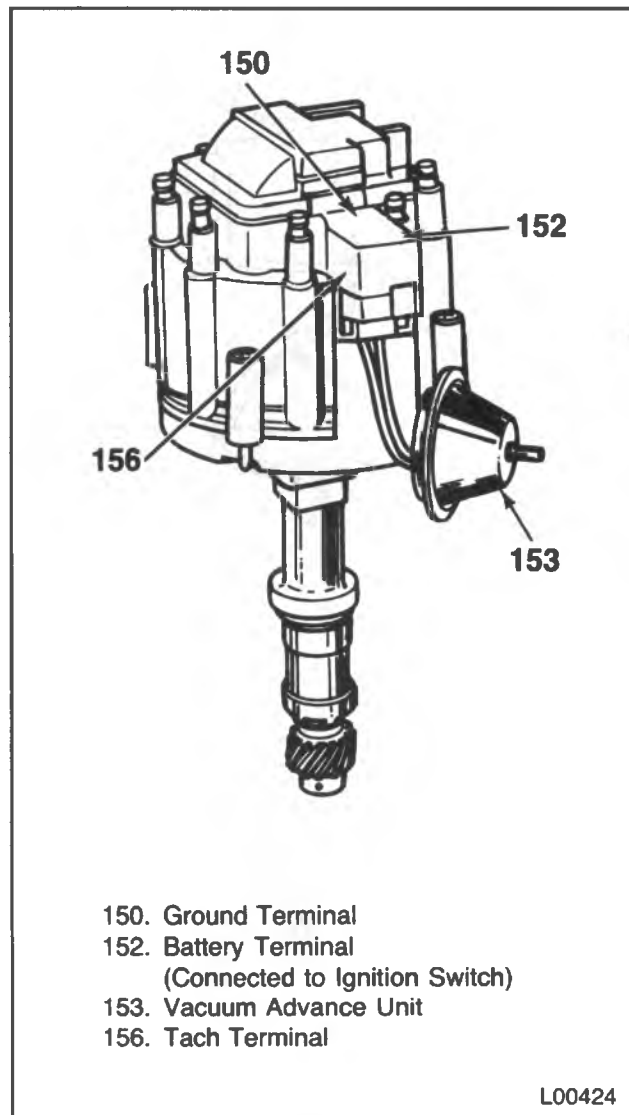
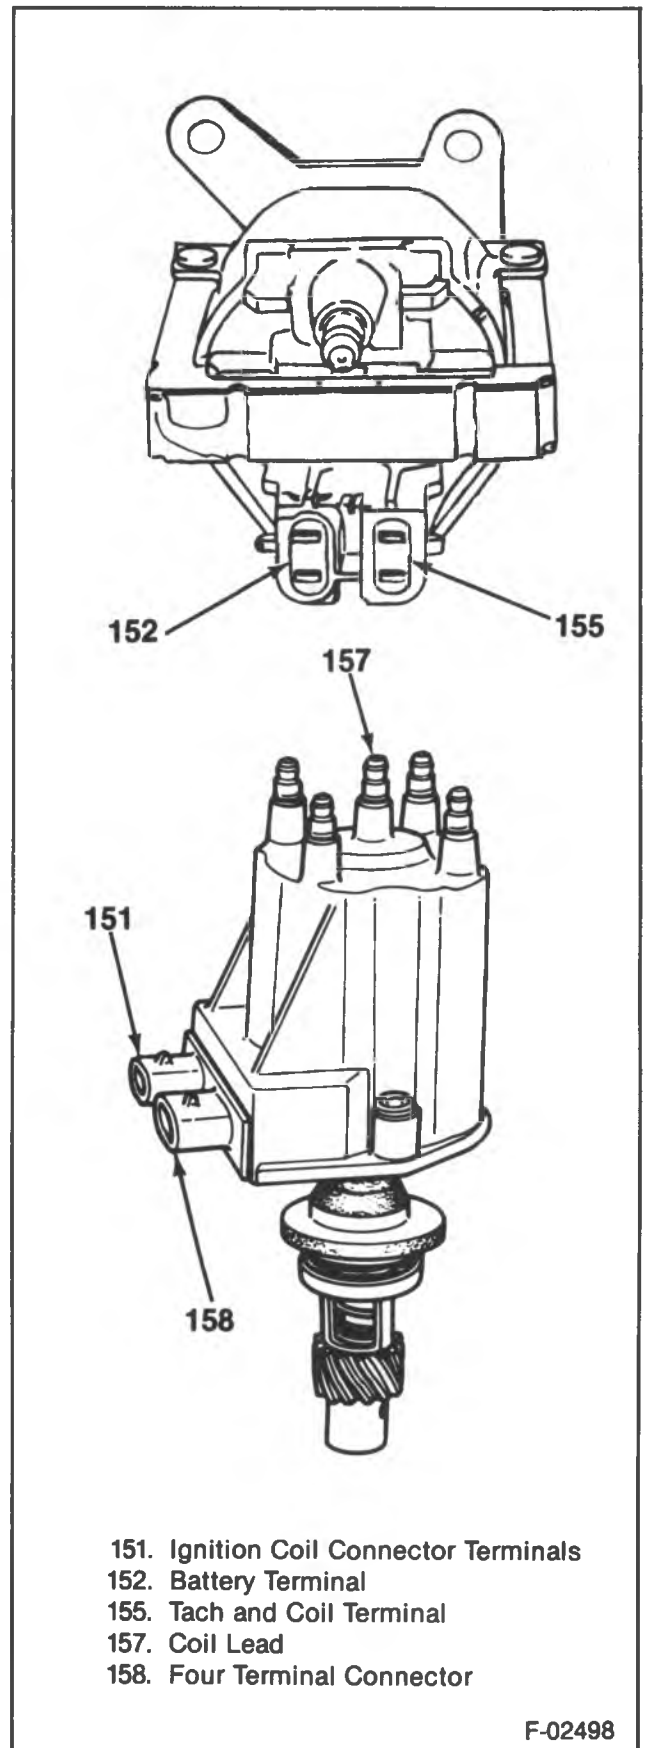

Figure 42 — Distributor with Integral Coil
Figure 44 — Distributor with Sealed Module Connectors and Separate Coil
The distributor with an integral coil combines all ignition components in one unit (figures 42 and 43). The coil is in the cap and connects through a resistance brush to the rotor. On a distributor with a separate coil the coil connects to the rotor through a high tension wire (figure 44).
3. On integral coil distributors, the tachometer (TACH) terminal is next to the engine control switch (BAT) connector on the distributor cap. On distributors with separate coils, the TACH terminal is located at the coil (figure 44).